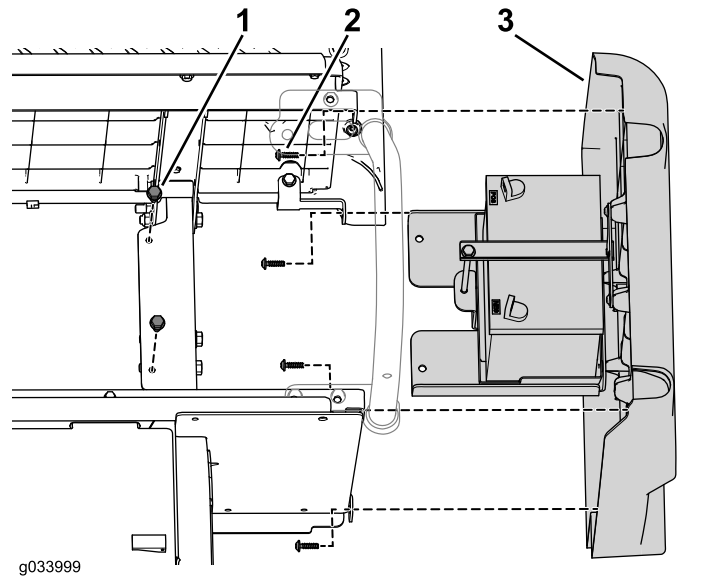

Figure 11
- Remove the 2 flange-head bolts (5/16 x 3/4 inch) that secure the battery tray to the frame and the 4 torx-head screws (M6.0 x 22 mm) that secure the right side panel, and remove the right side panel (Figure 11).
Note: The battery comes off with the right side panel as shown in Figure 11.